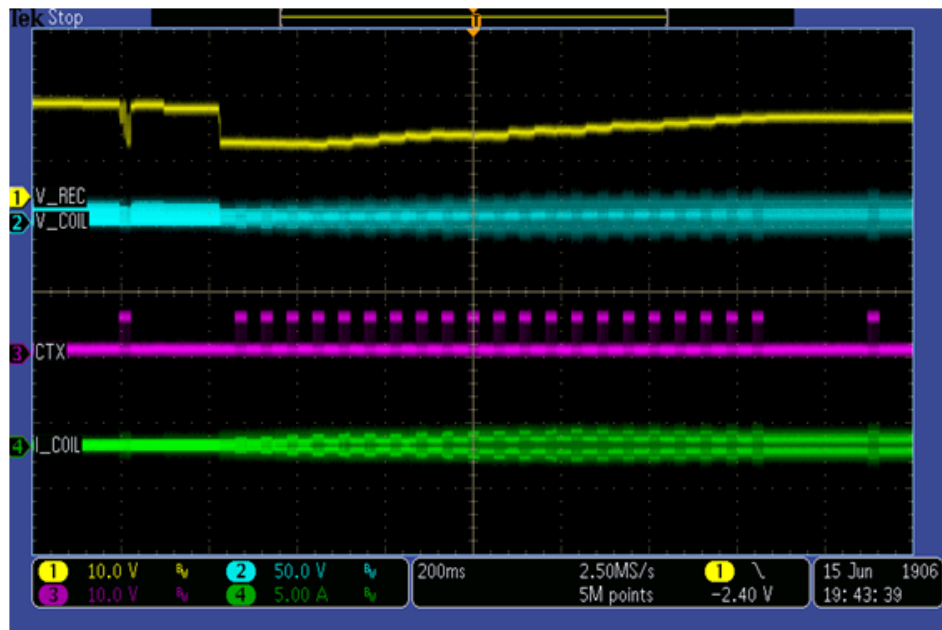

Figure 27. System response for adding loading gradually
3. System response measurement for adding the load gradually from 0 A is shown in Figure 27.